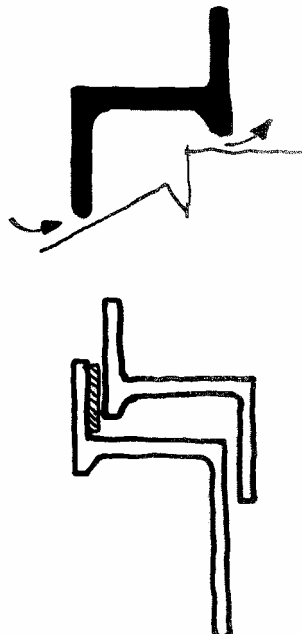

Figure 7.4 – Seal draughty window
- ❖ **In retrofit situations: clean the contact area of the frame (not the opening section) and apply a sealer strip, taking care not to shear the strip at the hinge. Adjust the window handle to exert sufficient even pressure over the strip without breaking the glass – a difficult job.** *Fig7.4*